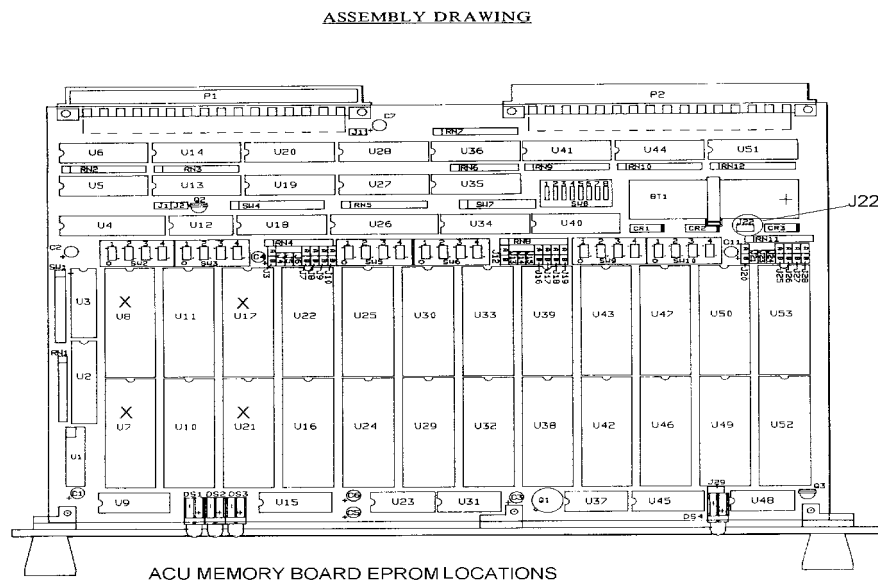
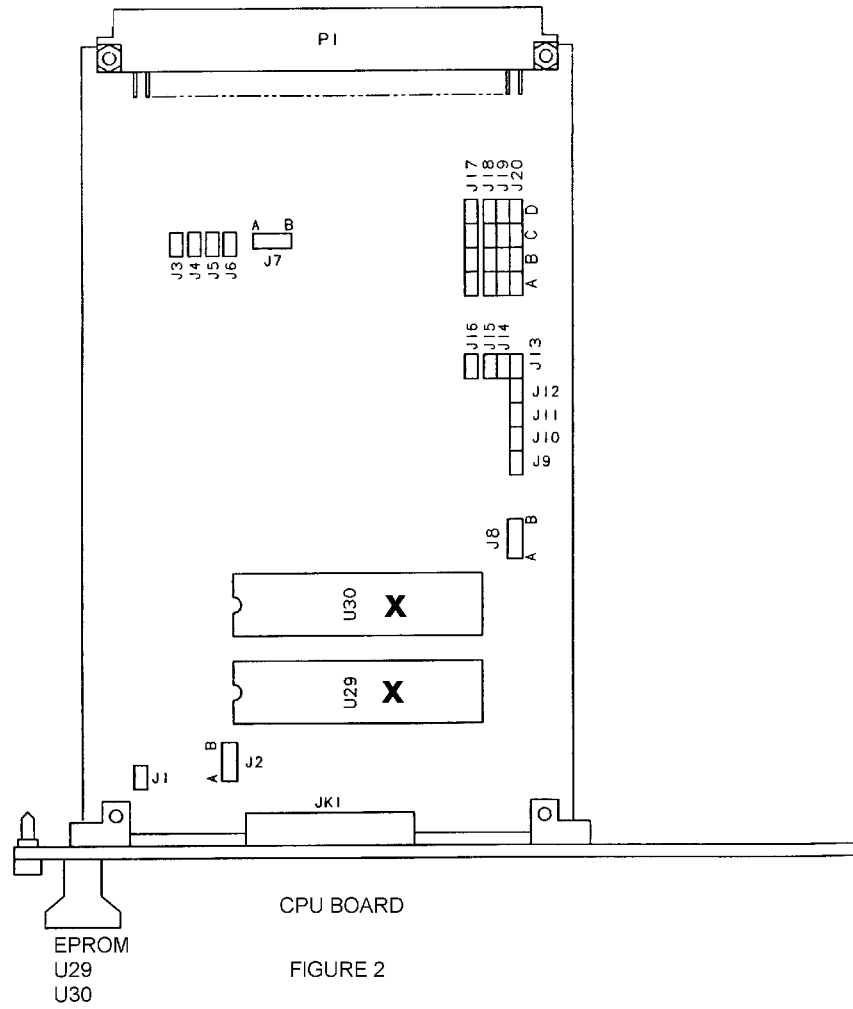

FIGURE 1
FIGURE 2
All ASOS application software is contained on the four erasable programmable read only memory (EPROM) integrated circuits (IC) on ACU memory board 1A2A3 or SCA 7A1A1A2A3 memory board. Figure 1 illustrates the ACU memory board and identifies the four EPROMs (U8, U17, U7, and U21) to be replaced. Figure 2 illustrates the DCP memory board 2A1A2A1 and/or 2A1A2A2 and identifies the two EPROMs (U29 and U30) to be replaced. The EPROMs are 32-pin dual in-line package (DIP) CMOS devices, each providing 512K x 8 bits of storage. Upgrading ASOS software requires only replacing the four EPROMs on the ACU memory board with higher revision level ICs.
If the ACU EPROMs in the system are 1.70 or higher, the ACU is no longer cold started by removing battery jumper J22 (Figure 1) to clear all RAM on the board. The next step requires receiving a download of site-specific data from the AOMC. The DCPs are cold started by performing a hard reset of each DCP from the processor status page on the OID. After completion of the upgrade procedure, the EPROMs removed from the ACU and DCP boards should be packaged in appropriate electrostatic discharge (ESD) protective material for return to NRC.
8. Remove the new EPROM ICs from the protective package and insert them into the DCP CPU board sockets in accordance with the following chart. Ensure that the EPROMs are installed with pin 1 (as identified by notch in top of IC) oriented toward board connector P1 and P2 as shown on Figure 1.
10. Remove the new EPROM ICs from the protective package and insert them into the memory board sockets in accordance with the following chart. Ensure that the EPROMs are installed with pin 1 (as identified by notch in top of IC) oriented toward board connector P1 and P2 as shown on Figure 1.